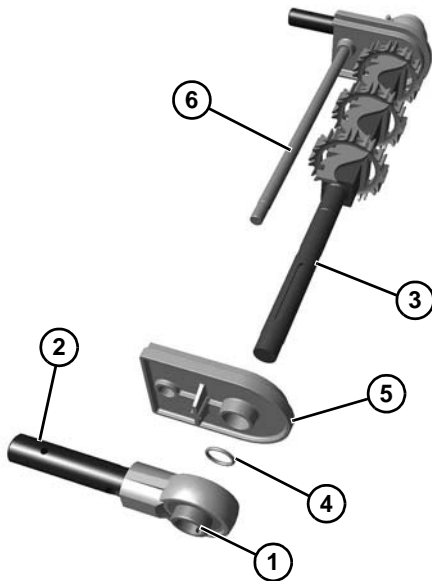

Figure 54
7. Use a hex wrench to loosen two set screws (**Figure 54, item 1**) on the bearing shaft assembly.
8. Slide the bearing shaft assembly (**Figure 54, item 2**) off the drive spindle (**Figure 54, item 3**).
*When removing tracking plate, be certain not to lose O-ring (**Figure 54, item 4**).*
9. Slide the tracking plate (**Figure 54, item 5**) off the drive spindle.
10. Remove pinch guard shaft (**Figure 54, item 6**).